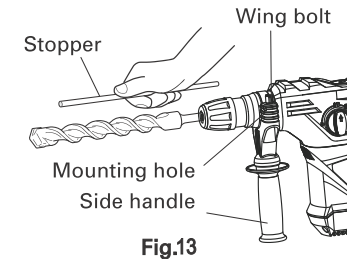

Fig.13
7. Using the stopper (Fig. 13)